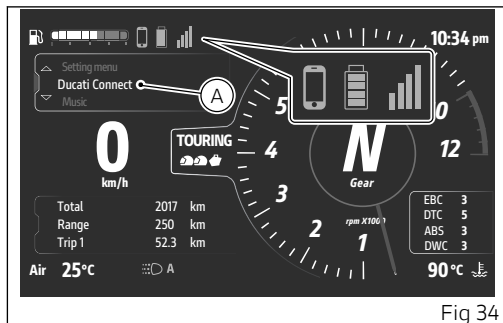

Fig 34
- start the Ducati Connect app (B) on your smartphone;
- from the app, press the motorcycle icon to start "Vehicle Mode" (C), then the instrument panel connection wait screen is displayed (D);
- once the connection has been established, to ensure correct mirroring operation, the smartphone must be unlocked and have the Ducati Connect app active in the foreground (E);
- on the instrument panel, use the joystick ▲ ▼ to select the "Ducati Connect" item from the Interactive Menu and press ENTER (A, Fig 34).
- on the instrument panel, use the joystick to select the “Ducati Connect” item from the Interactive Menu and press ENTER (A, Fig 34).